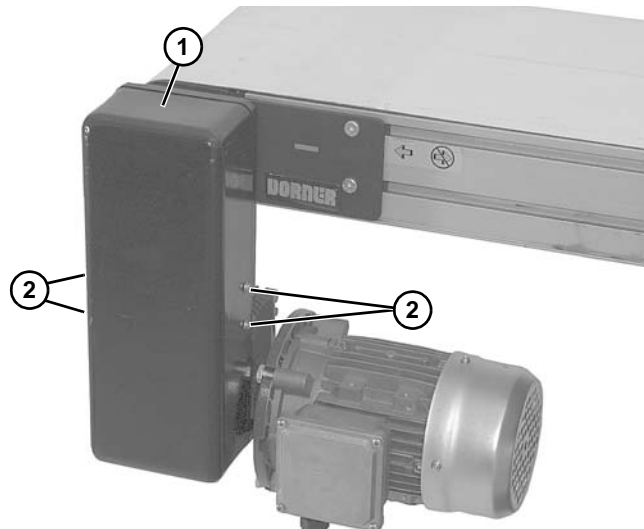

Figure 14
10. Install cover (**Figure 14, item 1**) with four (4) screws (**Figure 14, item 2**). Tighten screws to 35 in-lb (4 Nm).
1. Remove four (4) screws (**Figure 14, item 2**) and remove cover (**Figure 14, item 1**).
4. Install cover (**Figure 14, item 1**) with four (4) screws (**Figure 14, item 2**). Tighten screws to 35 in-lb (4 Nm).
6. Install cover (**Figure 14, item 1**) with four (4) screws (**Figure 14, item 2**). Tighten screws to 35 in-lb (4 Nm).